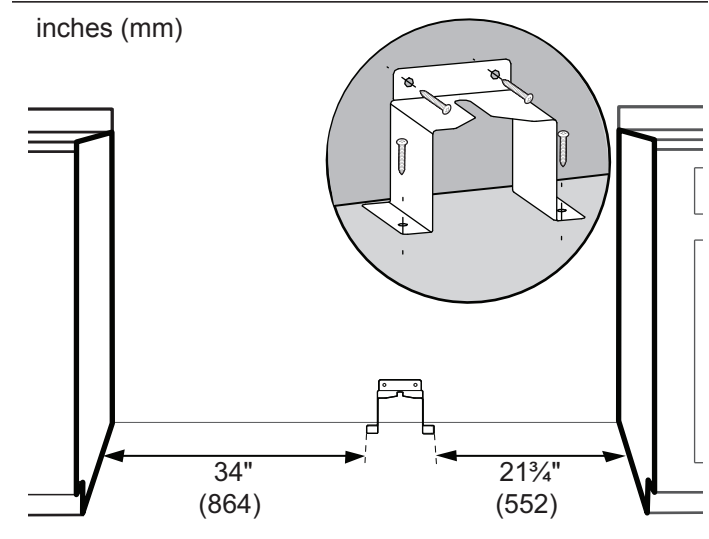

Figure 9: Placement of Anti-Tip Bracket
3. Place the bracket on the floor in the position shown in Figure 9. Secure to floor and wall stud using the (4) $1\frac{1}{2}$ " (38 mm) Phillips head screws provided.